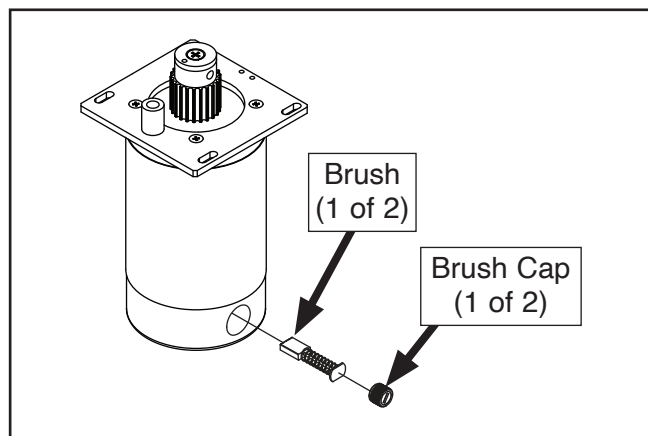
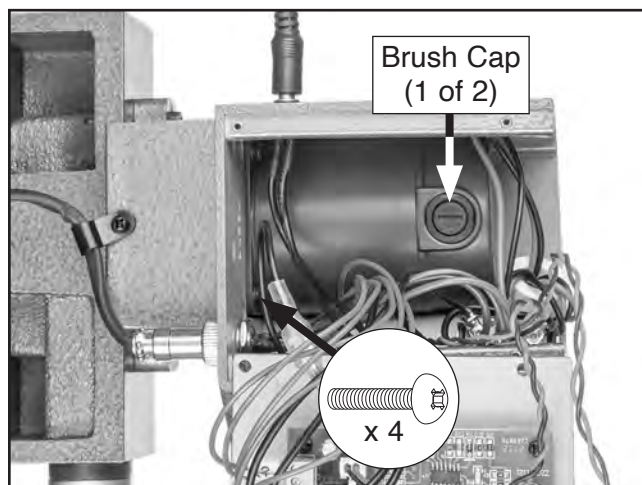

Figure 71. Location of brushes under brush caps.
Figure 73. Location of power feed motor brush caps.
8. Remove brush caps and worn brushes (see **Figure 71**) from motor.
3. Remove brush caps and worn brushes from motor (see **Figure 73**). See **Figure 71** for an example of how motor brushes fit into motor.
Note: It may be easier to access brush cap on other side of motor with motor removed from power feed box. To remove motor, remove (4) screws shown in **Figure 73**.